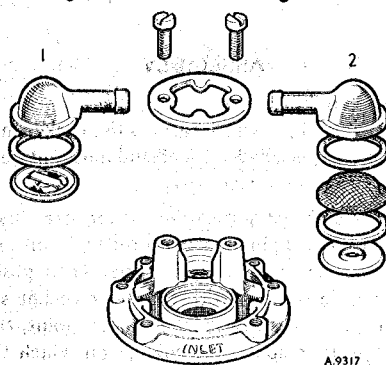

Fig. 9. The valve assembly, AUF 200 range pump
13. In the AUF 200 range of pumps, inlet and outlet valves are identical assemblies and are held in position in the one-piece body casting by a steel spring clamp plate secured by two 2 B.A. screws. This plate also secures the inlet and outlet nozzles, including the filter, all of which are arranged to be accessible from the outside of the pump (see Fig. 9). The inlet recess is deeper than the outlet to allow for the filter and extra washer.
14. Referring to Fig. 9, place the outlet valve assembly, tongue side uppermost, in the recess marked 'outlet', place a joint washer on top of the valve assembly, and complete by adding the outlet nozzle.